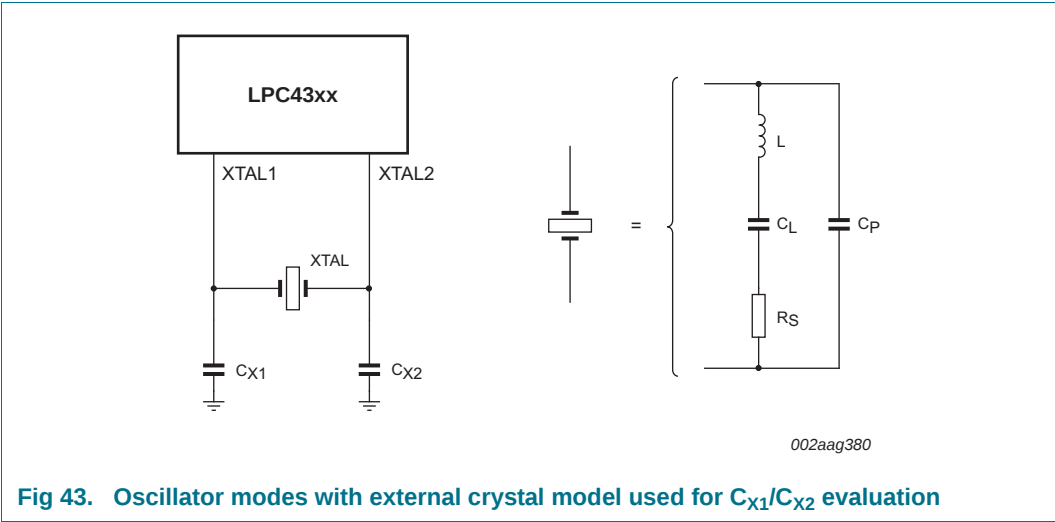

Fig 43. Oscillator modes with external crystal model used for CX1/CX2 evaluation
- External components and models used in oscillation mode are shown in Figure 43, and in Table 44 and Table 45. Since the feedback resistance is integrated on chip, only a crystal and the capacitances  $C_{X1}$  and  $C_{X2}$  need to be connected externally in case of fundamental mode oscillation ( $L$ ,  $CL$  and  $RS$  represent the fundamental frequency). Capacitance  $C_P$  in Figure 43 represents the parallel package capacitance and must not be larger than 7 pF. Parameters  $FC$ ,  $CL$ ,  $RS$  and  $CP$  are supplied by the crystal manufacturer.